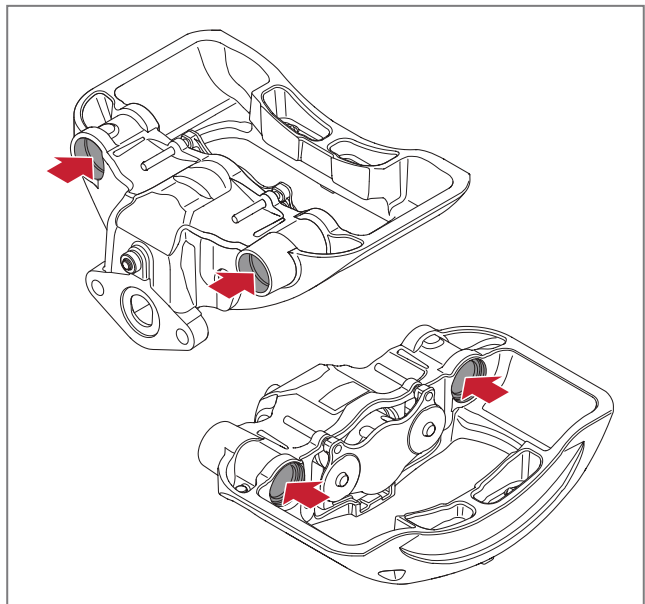

Fig. 64 - Cleaning the brake calliper bearing/bushing mating surfaces
1. Clean the bearing/bushing/bellows mating surfaces of the brake calliper to ensure that they are free from dirt, moisture, corrosion and damage, see ► Fig. 64.